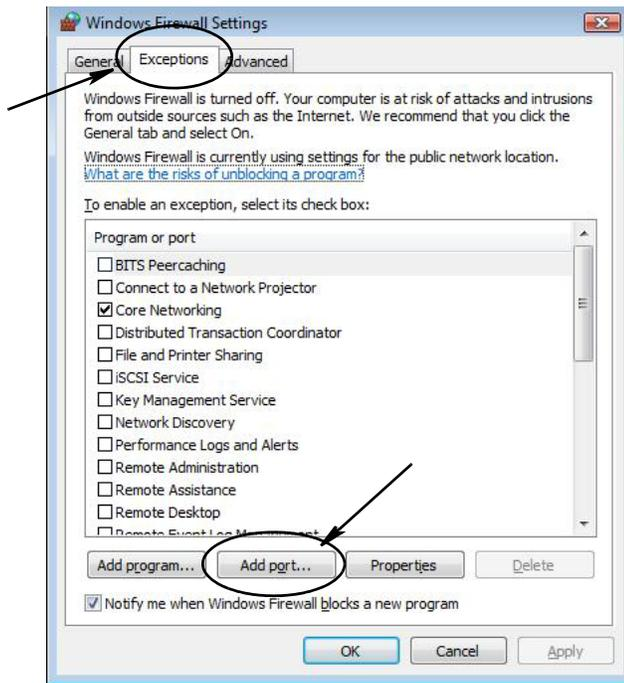

FIG. 37
3. If not already selected, click "Exceptions Tab to display contents (FIG. 37).
4. Click "Add Port" button (FIG. 37).